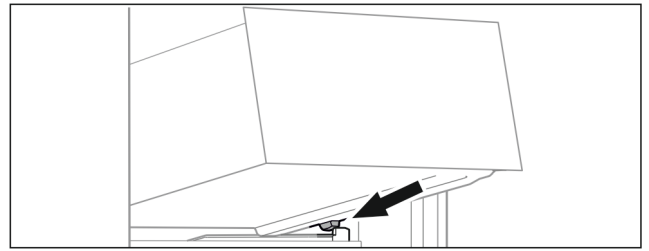

Fig. 72
- ▶ Place drawer at an angle behind the stoppers on the moulded rib. (see Fig. 72)